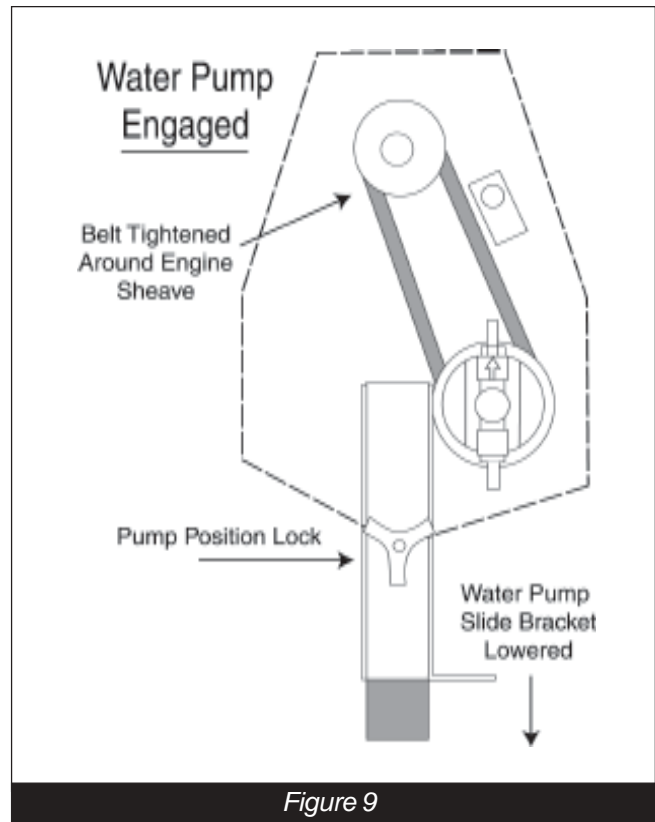

Figure 9
- Engage the water pump by loosening the pump position lock, lower the water pump slide bracket and retighten the pump position lock. (Figure 9)